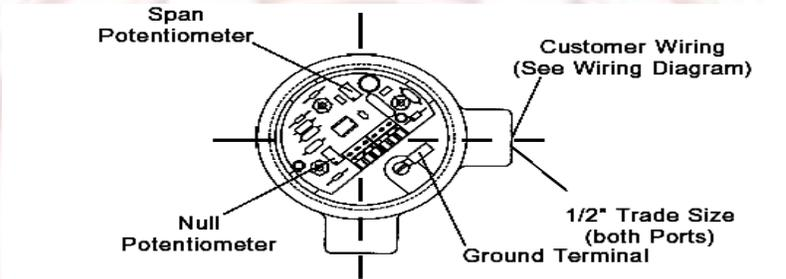

Figure: 1
- B. Adjust both the null and span potentiometers at approximately mid-range. *Figure 1*